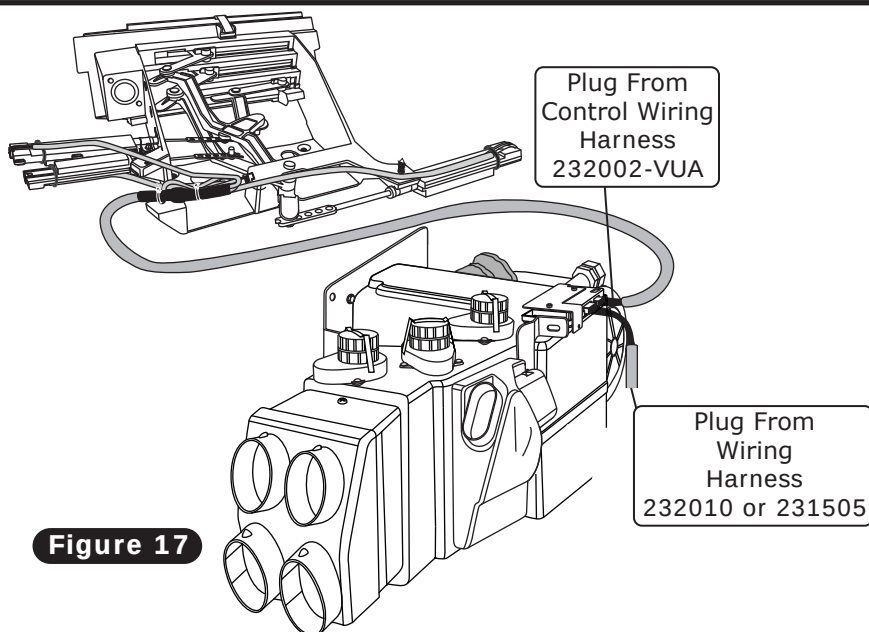

Figure 17
2. Plug the wiring harnesses into the ECU module on the sub case (See Figure 17, below).